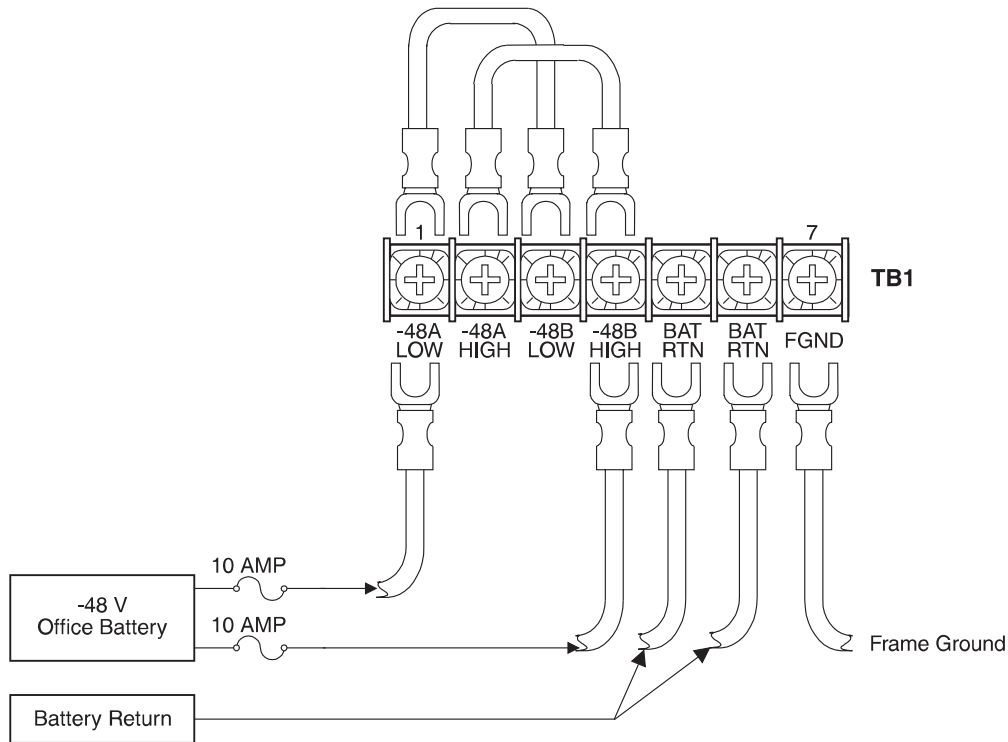

Figure 7 Split-Shelf Wiring
- 3 Connect a wire to the -48A-LOW terminal of TB1 (Figure 7). Connect the opposite end of this wire to the A CO battery supply at the fuse panel.
- 7 Using a short jumper wire, connect the -48 A-LOW and -48 B-LOW terminals of TB1. Make this connection at the top of the terminal block as shown in Figure 7.
- 8 As in step 2, connect the -48A-HIGH and -48B-HIGH terminals of TB1. Make this connection at the top of the terminal block as shown in Figure 7.